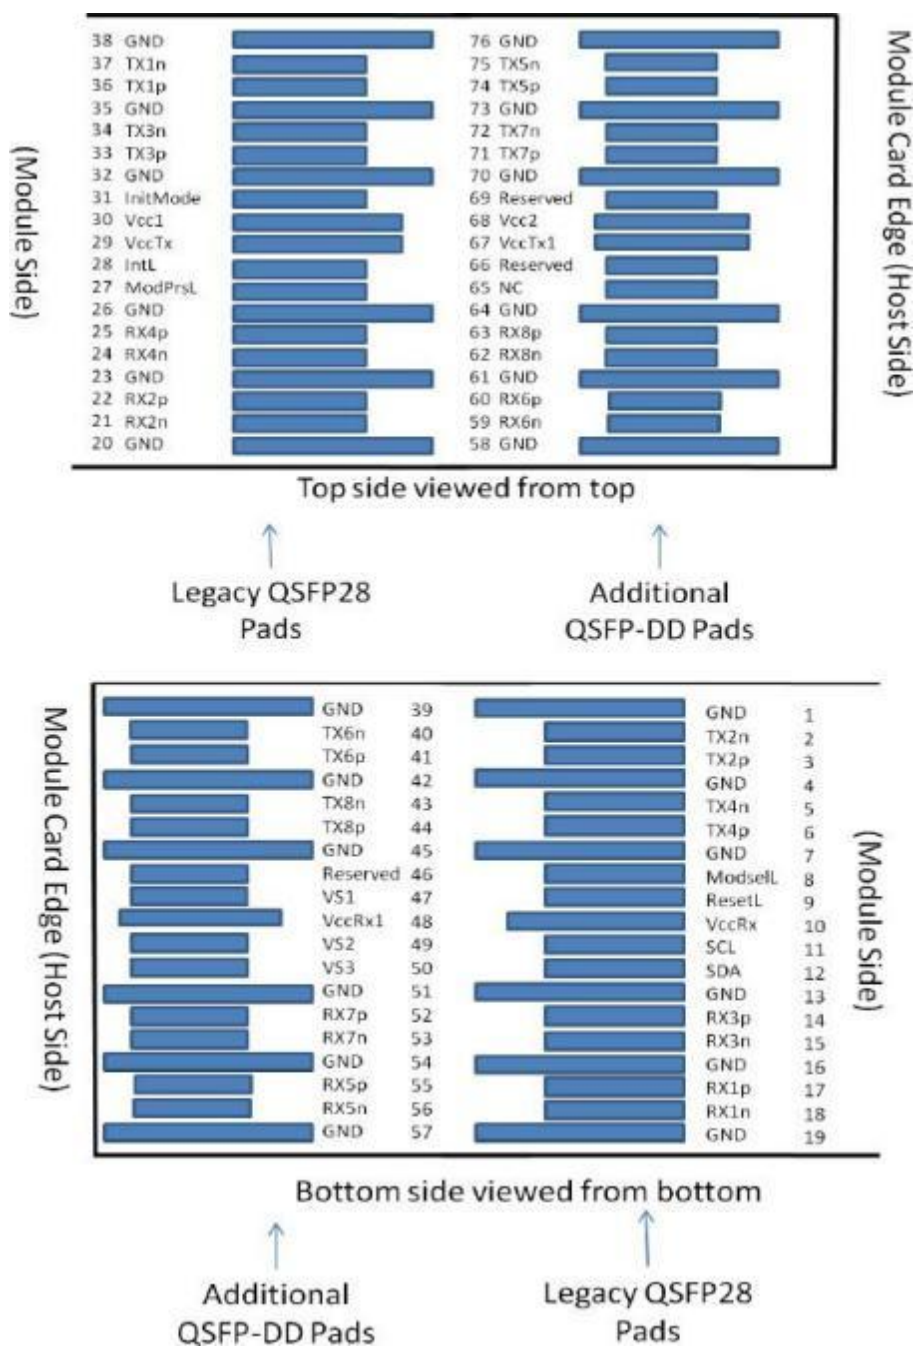

Figure 2. MSA Compliant Connector
The electrical pinout of the QSFP-DD module is shown in Figure 2 below
4. Plug Sequence specifies the mating sequence of the host connector and module. The sequence is 1A, 2A, 3A, 1B, 2B, 3B. (see Figure 2 for pad locations) Contact sequence A will make, then break contact with additional QSFP-DD pads. Sequence 1A, 1B will then occur simultaneously, followed by 2A, 2B, followed by 3A, 3B.